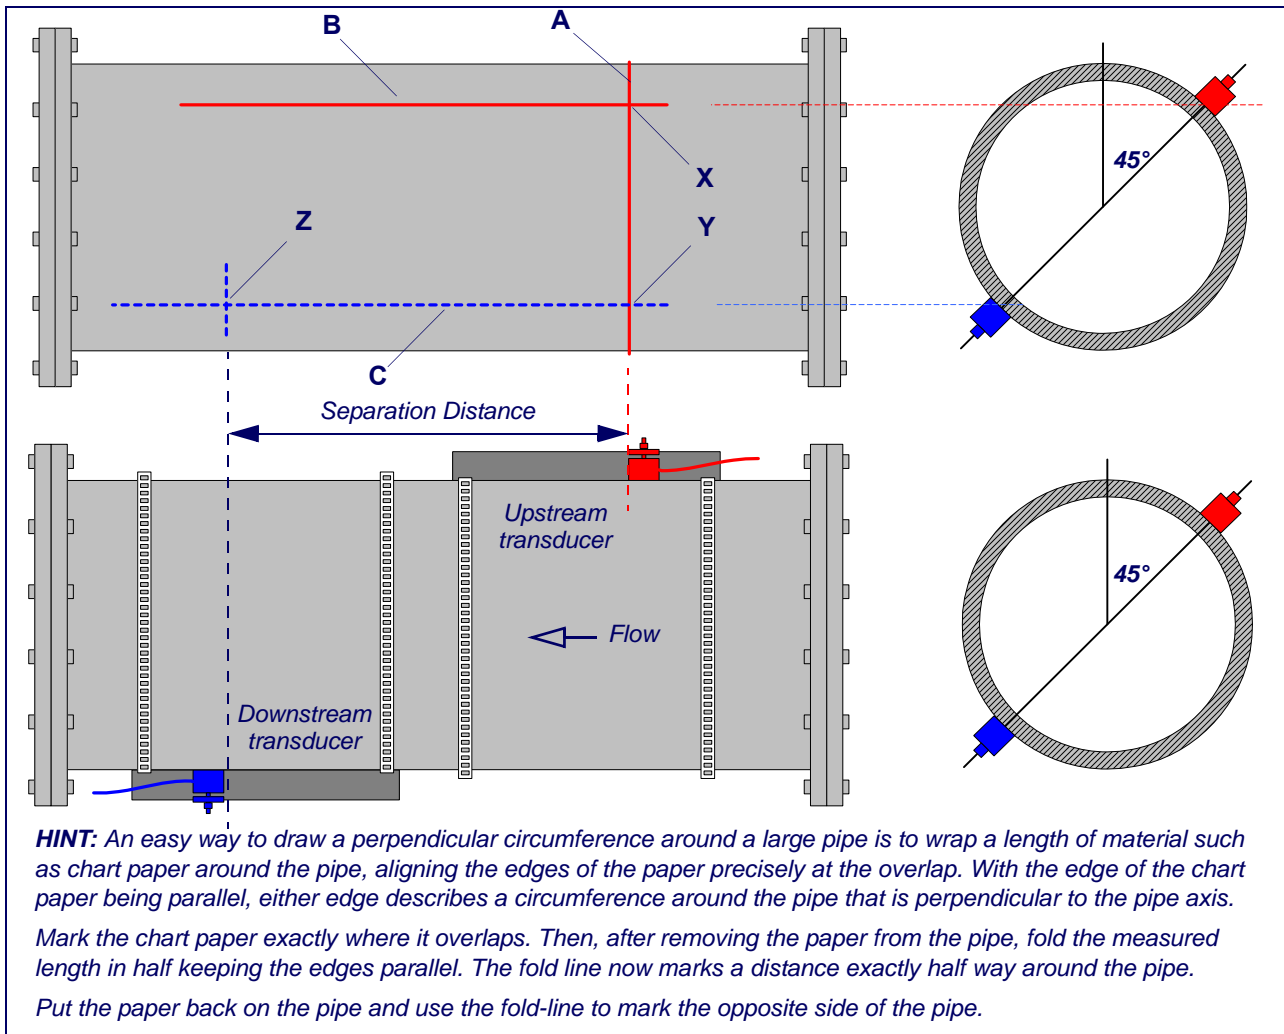

Figure 2.16 Transducer mounting for diagonal mode of operation
This mode of operation requires two transducer guide rails fitted on opposite sides of the pipe, as shown in Figure 2.16 – notice that the guide rails are still fitted on a 45° axis with respect to the top of the pipe. When used with type 'A' or 'B' transducers the guide rails used are identical to that shown above, and the second guide rail and fixings must be purchased as an option kit.
2. Using whatever means available, mark a reference line around the circumference of the pipe approximately where the upstream transducer is to be fitted – line 'A' in Figure 2.16.
5. From point 'Y', draw a one metre long line ('C') perpendicular to 'A' and parallel to the pipe axis. This is shown as a dashed line in Figure 2.16 as it is on the rear of the pipe.